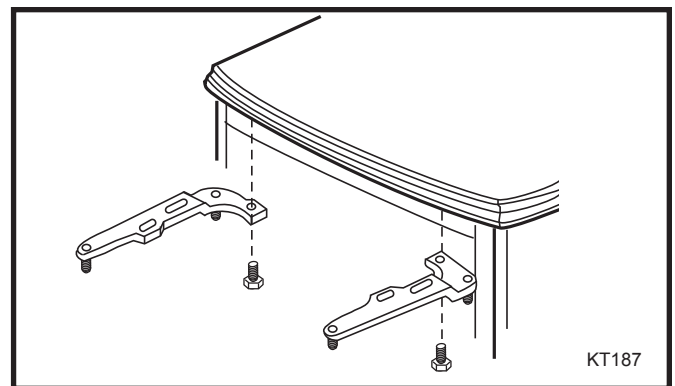

**Fig. 1** Warming shelf parts.
1. Screw the levelling set screws into the bottom of the flat brackets as shown in Figure 1.